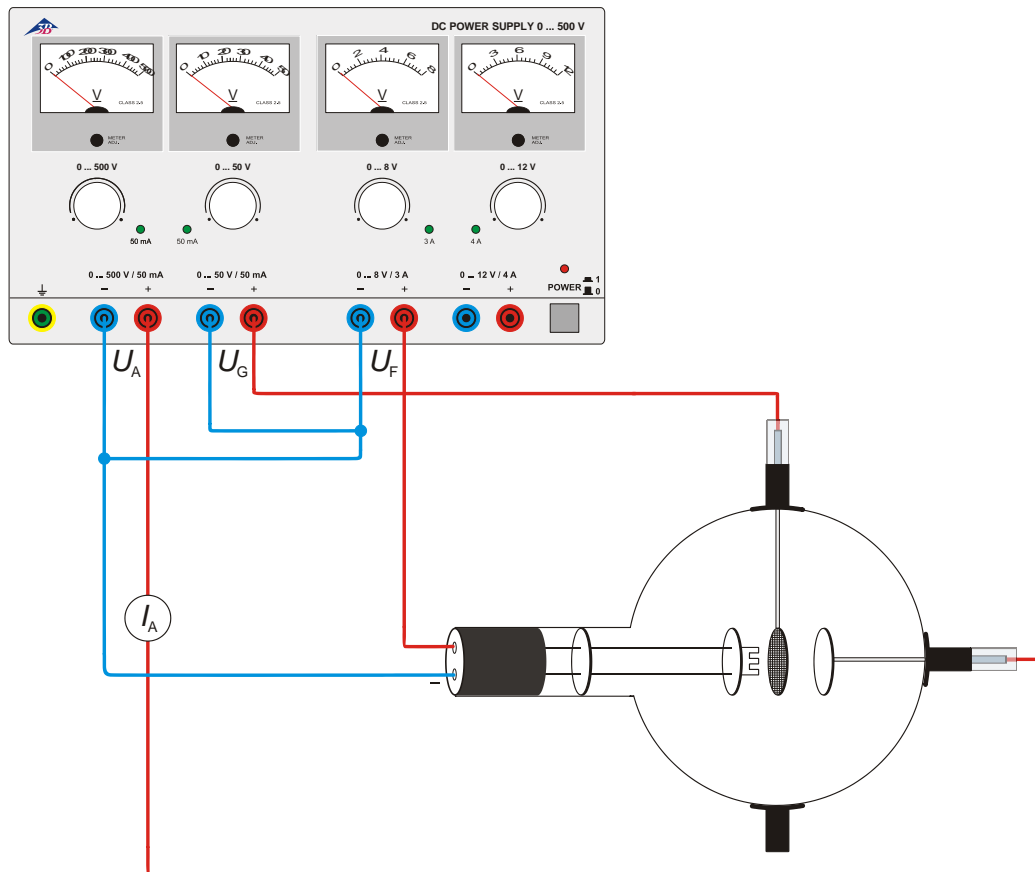

Fig. 1 Demonstration of anode current and determination of the polarity of the charge carriers
- Set up the circuit as in Fig. 1. Connect the minus pole of the anode voltage to the 4-mm socket marked with a minus.